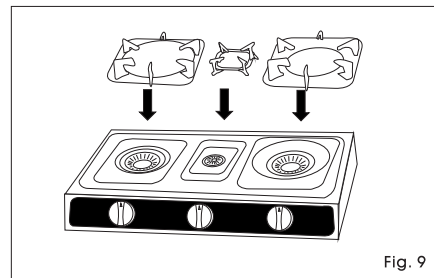

Fig. 9
- When unpacking, make sure that all of the parts of the gas cooker are included. Assemble the parts as shown in (Fig. 9).